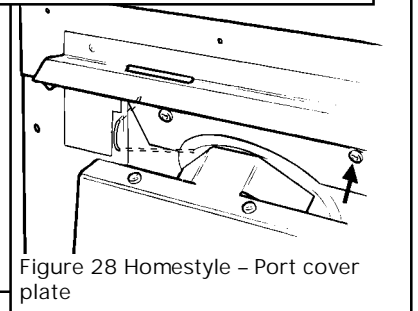

Figure 28 Homestyle - Port cover plate
**9.2.3** Fit the port cover plate to the convection box by removing the screw shown in figure 28, placing the cover plate over the top of the outlet ports and securing with the screw previously removed. It is not essential to run the screw fully home. It can be allowed to protrude to prevent the cover plate from bending. See figure 28.